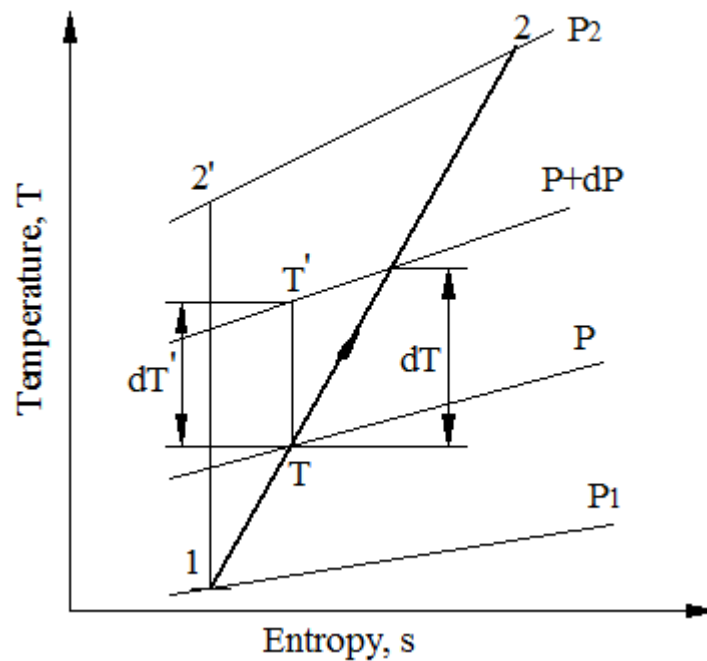

Fig. 2.5 Infinitesimal stage of a compressor
Consider a single stage compressor having its stage efficiency  $\eta_{st}$ , operates between the pressures  $p_1$  and  $p_2$ , and an infinitesimal stage of efficiency  $\eta_p$ , working between the pressures  $p$  and  $p+dp$  as shown in figure 2.5.
**Answer:** From the T-s diagram shown in figure 2.5, the compressor stage efficiency is given by,